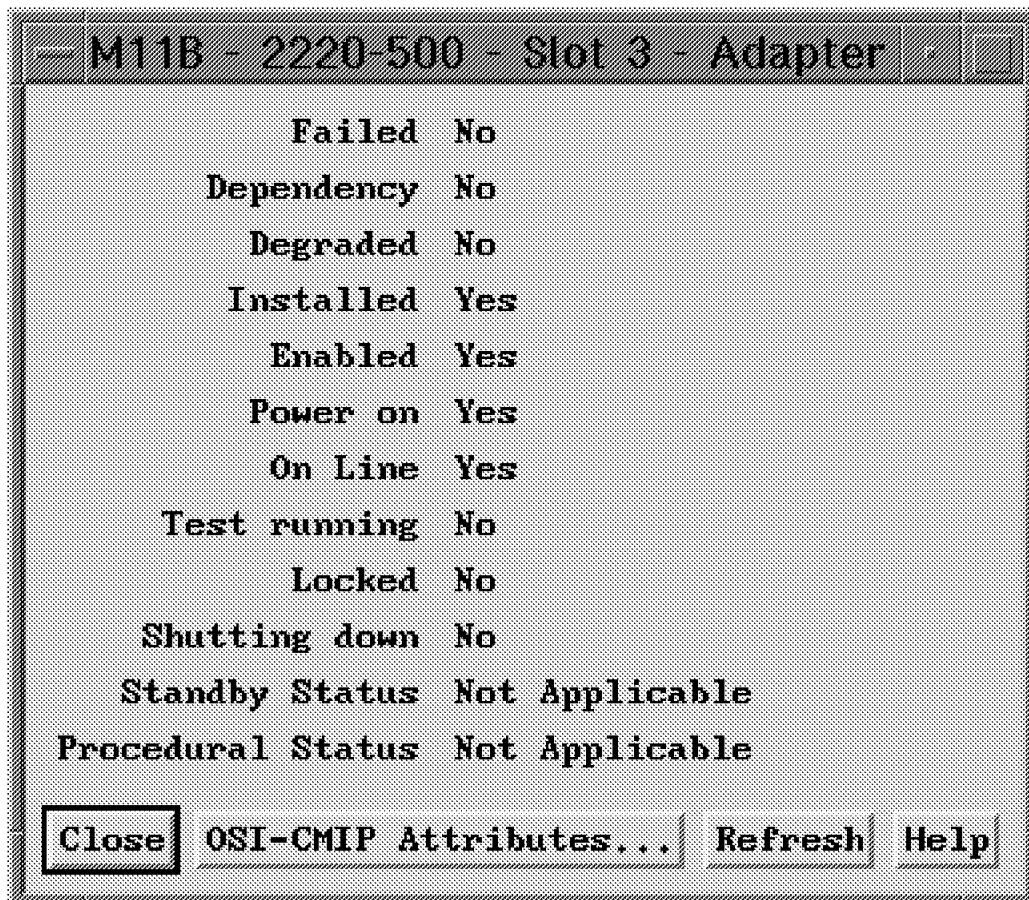

Figure 237. The Status Window
4. You can display the adapter's status window (see Figure 237) by selecting the **Status information** push button in the first window.